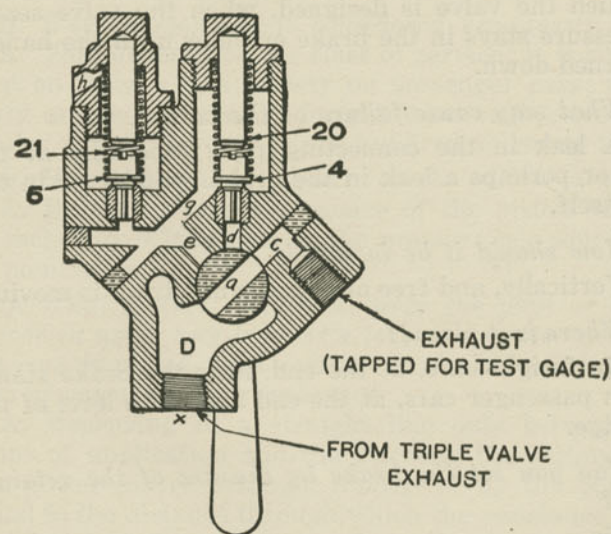

Fig. 461. Double Pressure Spring Type Pressure-Retaining Valve.
A. One that will hold either a low or a high pressure in the brake cylinder according as its handle is set horizontally or 45 degrees below that (Fig. 461).